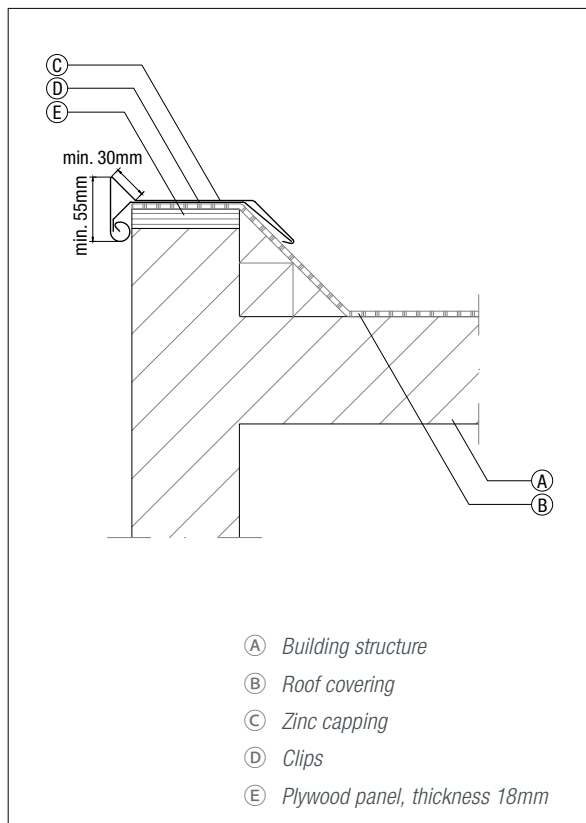

Figure 7.1.3 Zinc capping with ridge
- the upper surface of the zinc capping must slope down in the direction of the roof or must be provided with a rain ridge, see figure 7.1.3.